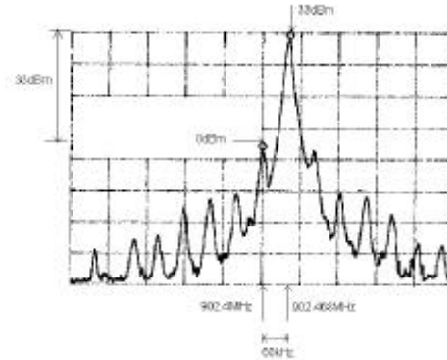

Figure 23: Carrier leakage ratio
- (Figure 23) On the spectrum analyser measure the carrier leakage ratio. Carrier leakage ratio is measured as the ratio of peak power and the power at 68kHz below peak frequency.